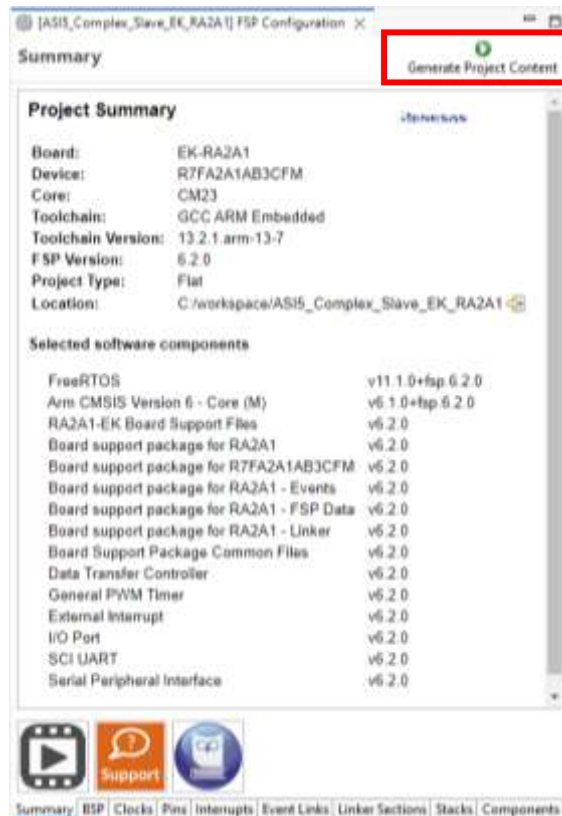

Figure 18. Project Configurator
1. Click **Generate project contents** to update the threads and drivers project configuration structures as shown in Figure 18.